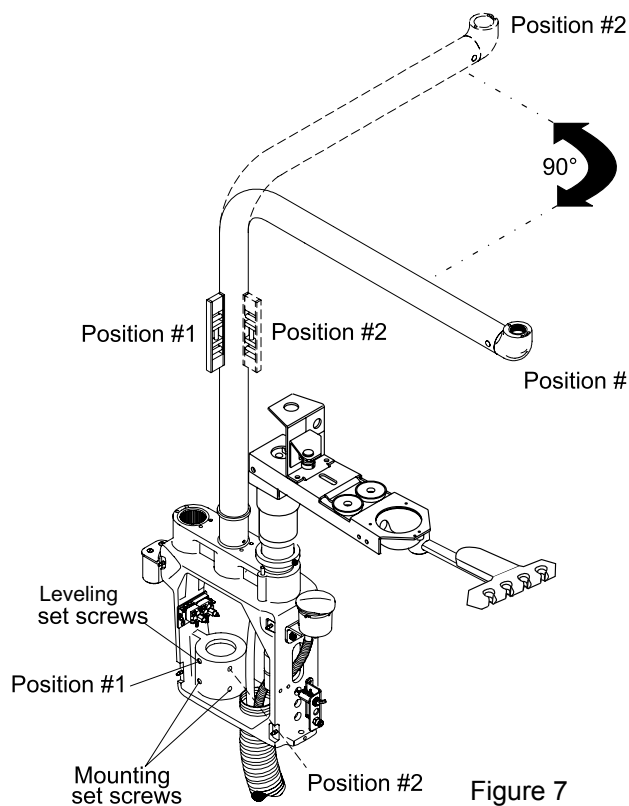

Figure 7
11. Verify proper leveling of system. Swivel pole to position #1 and place a level on the unit post's vertical section as shown in figure 7.